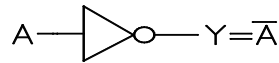

Fig.8.11. Logic symbol of NOT gate
**NOT gate is a basic gate which complements the input signal value.** It performs Boolean negation. It is also called as an inverter. It is a logic gate with only one input and one output. Logic Symbol of NOT gate is shown in fig. 8.11.